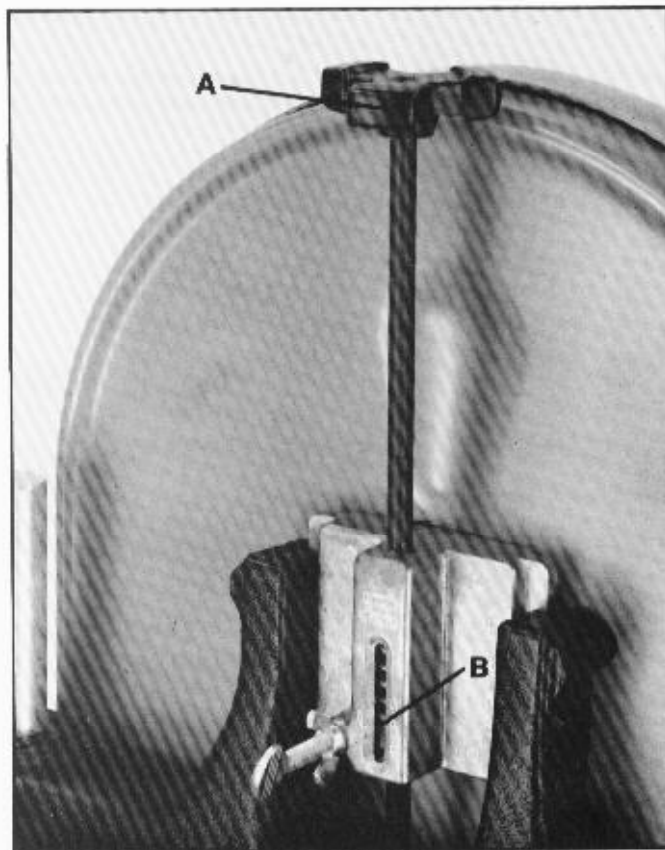

Fig. 15
On the back of the upper wheel slide bracket, there is a series of graduations. These indicate the proper tension for various widths of blades. With the blade on the wheels, turn the knob (A) Fig. 15, to raise or lower the wheel, until the red fiber washer (B) is in line with the proper graduation for the size of blade being used.